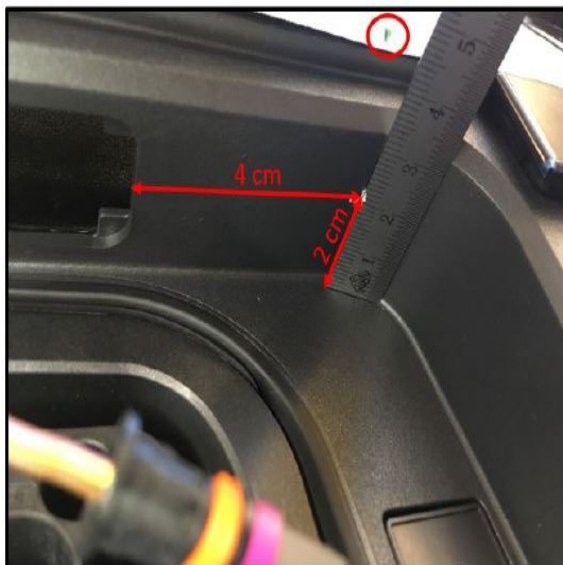

Figure 11: The drill mark should be at the same level as the first mark at 2 cm.
4. Open the charging door using the button and make a drill mark at the same level as the first mark, exactly as depicted in Figure 11.
As an alternative to marking at the letter “n” (left side of vehicle) or “e” (right side of vehicle), a dimension of 4 cm (Figure 11) may also be used.